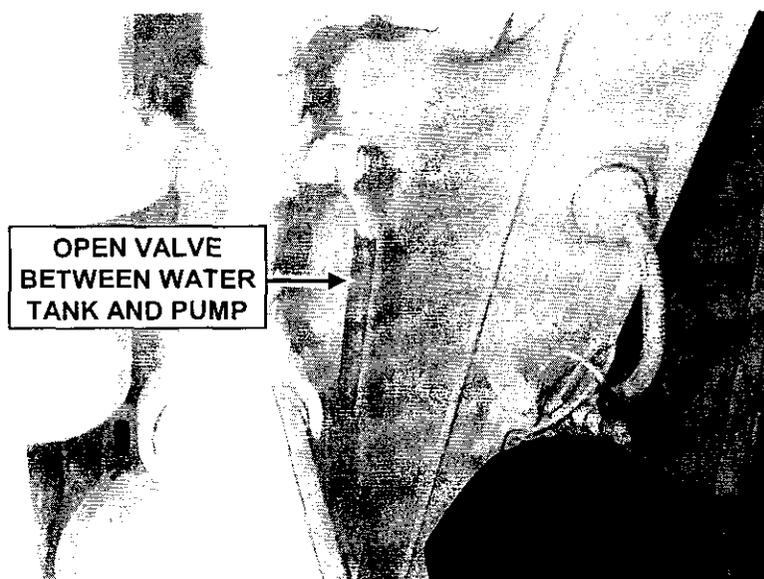
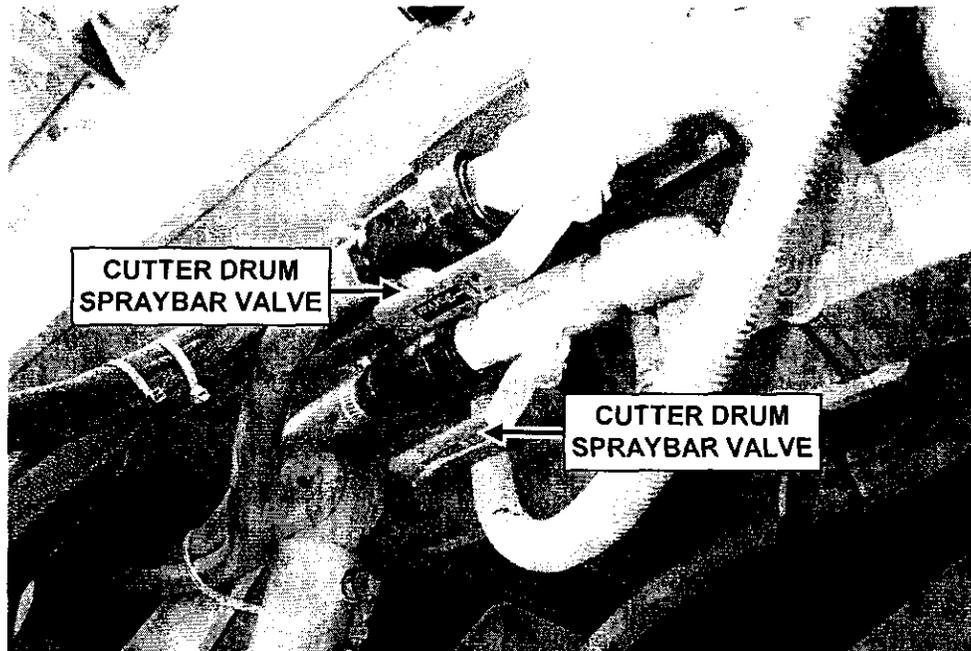

FIGURE 20
FIGURE 21
F. Open the valve between the water tank and the water pump (figure 20). Open all the valves between the pump and spray bars (figures 21 & 22). Water flow pressure can be adjusted by turning the flow control valve located just above the cutter drum spraybar valves.